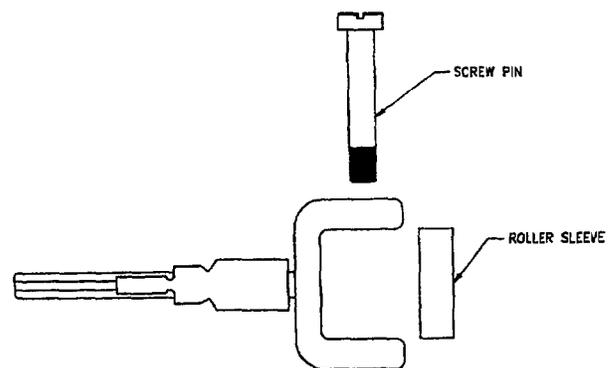

Figure 1. Ejector Snap
(1) Remove screw pin of ejector snap allowing the roller sleeve to fall free (Figure 1).